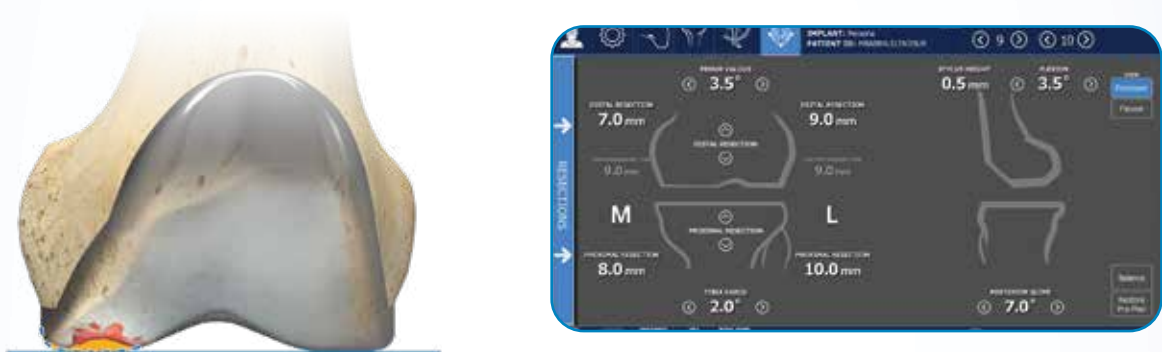

Figure 4: Restoration of Pre-Arthritic Femoral Joint Line in Extension
- **Distal Resection:** On the less affected condyle, the distal resection should be set to be equal to the implant thickness. On the more affected condyle, the distal resection should be set to the implant thickness minus the estimated cartilage wear (e.g., 9 mm – 2 mm = 7 mm). The resulting varus/valgus angle will be representative of the patient's pre-arthritic joint line angle (Figure 4).